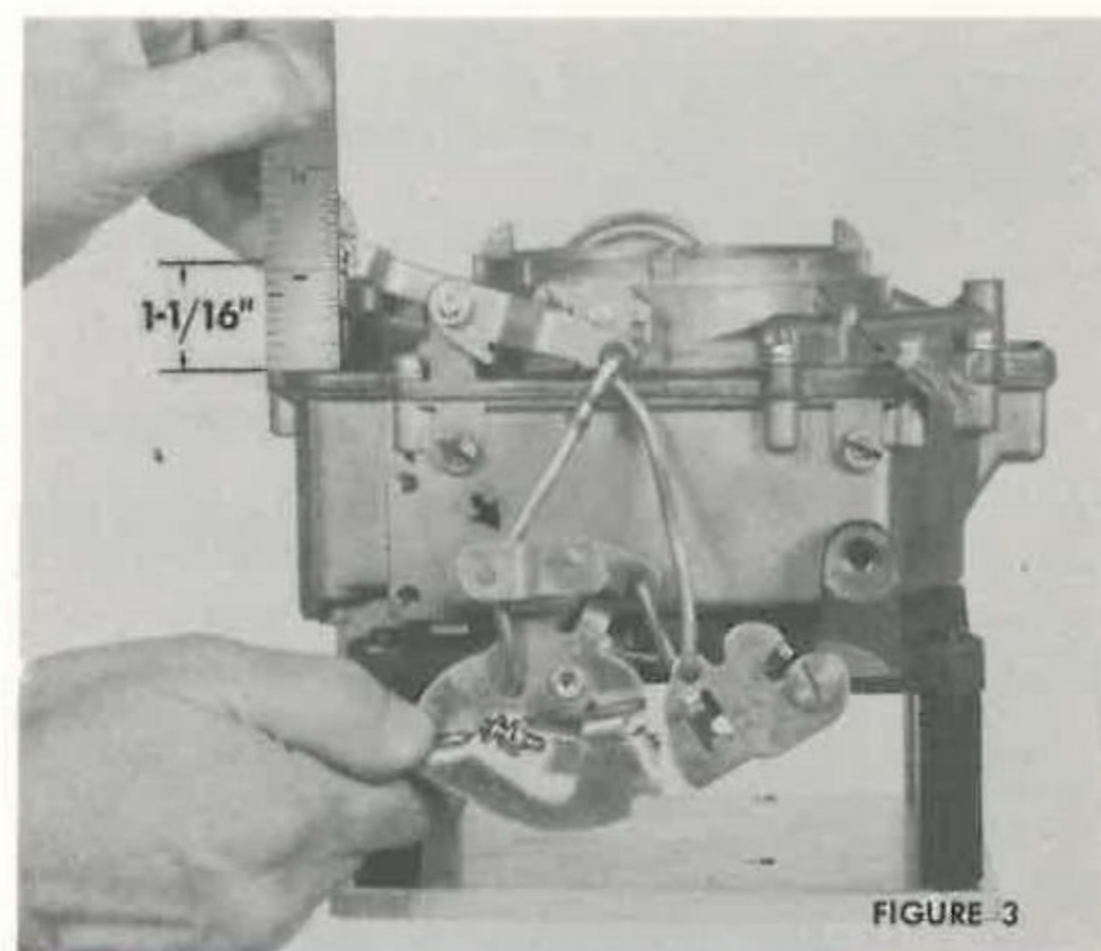

FIGURE 3
2. **Pump Rod Adjustment:** Back out both the throttle stop screw and the fast idle adjusting screw so that the throttle valves are tightly closed. With the throttle lever held in this position, carefully bend the pump rod until the dimension from the top of the air horn surface to the bottom edge of the pump plunger rod is $1\frac{1}{16}$ ", as shown in Fig. 3.